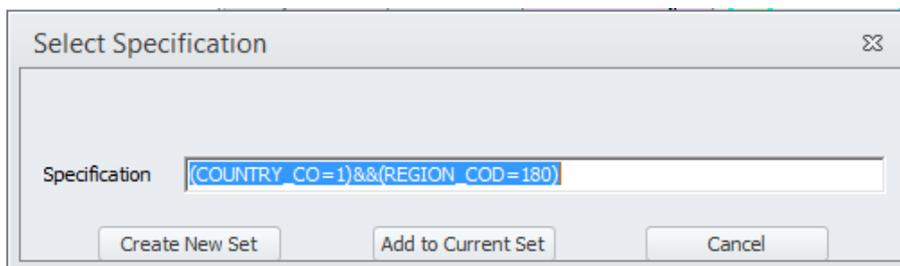

Figure 44 The Select Specification window.
- 3) In the Select Specification window, right click in the blank field to see the attribute list (note: it only shows attributes from the active layer – to access other attributes, select another layer in the TOC), and select the attribute for applying the condition (in the example in Figure 44, select the Stockholm region). For a list of the region and country codes, open the table **Scenario Inputs\General tables\Zoning Systems** in the Data Section window